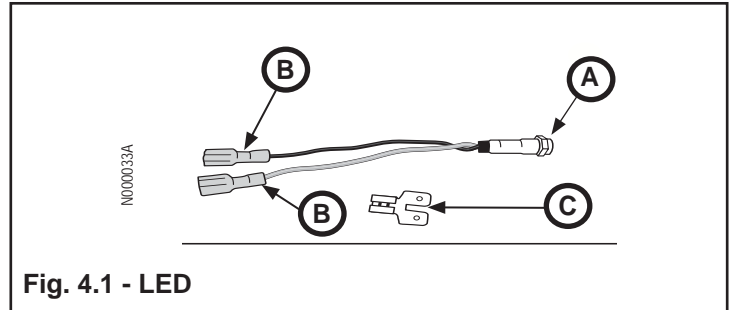

Fig. 4.1 - LED
References for Figs. 4.1 - 4.6
Follow the steps below. If an error code is activated in the control module (Fig. 4.3, G) and the LED (Fig. 4.1, A) is connected, it will flash a number of times. The number of flashes will depend on what error was recorded. Each flash will last 1/4 second and after the code is flashed there will be a delay, then the code will repeat.
- A 10 mA LED with wire leads (See Fig. 4.1, A).
- Two (2) 1/4 inch push-on female connectors (See Fig. 4.1, B).
- A 1/4 inch adapter with 1 female to 2 male connections. (See Fig. 4.1, C)